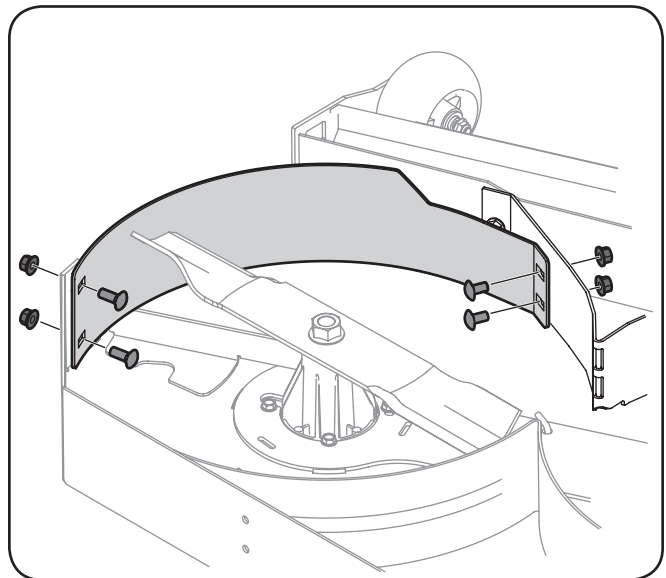

Figure 1-4
2. Install the discharge baffle using the two 1-inch carriage bolts (and two flange nuts) to secure the back portion, and two 3/4-inch carriage bolts (and two flange nuts) to secure the front portion. See Figure 1-4.